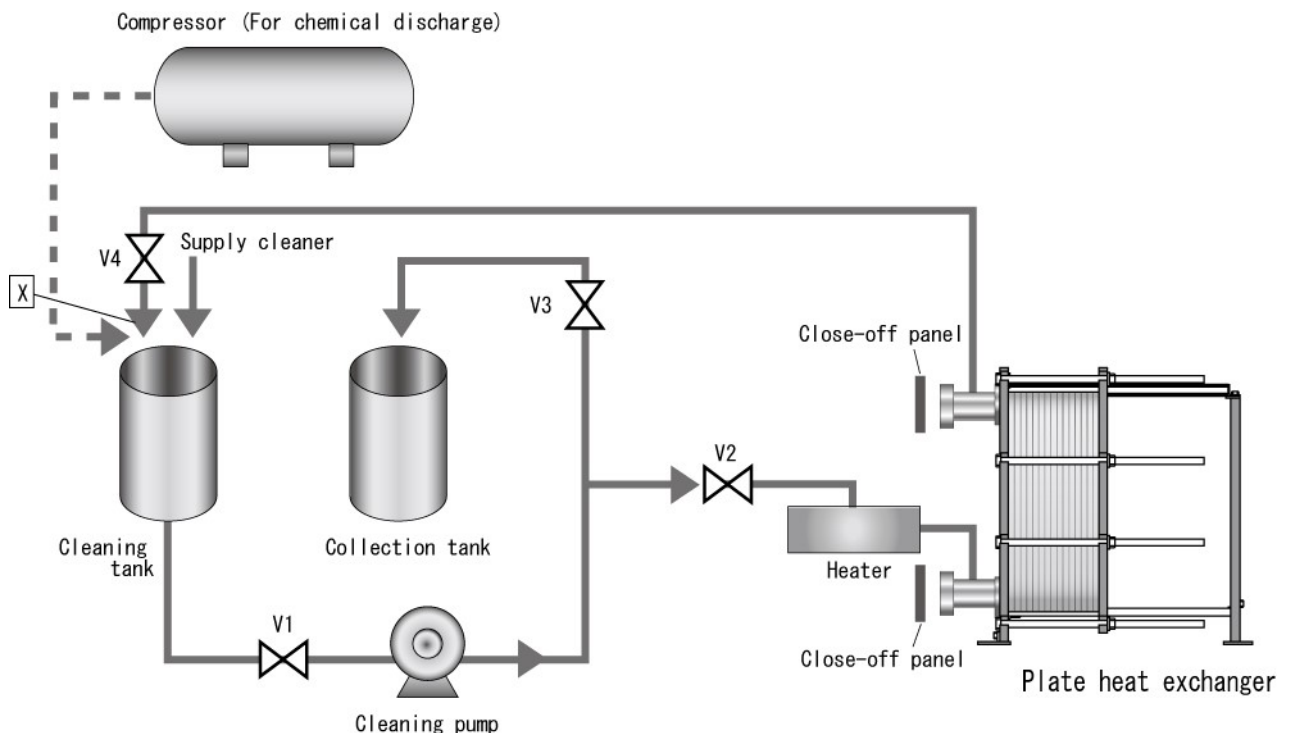

Fig.1-Flow Sheet
- ⑤ Valves: Approx. 40A (Ball valves are recommended.)
- ⑥ Recovery tank: 200 liters (Chemical resistant material such as polyethylene lined is recommended)
- ⑦ Cleaner input port connection
- ⑧ Compressor (if 0.5MPa clean air is not available)
- ① Power source for the cleaning pump
- ② Power source for the compressor, or 0.5 MPa clean air
- ③ Power source for the electric heater
- ④ Fresh water
3. Cleaning procedure (Refer to the flow sheet in Fig. 1.)
- ① The cleaner will be sent from us after confirmation of condition of PHE and type of fluid and scales.
- ② Isolate the PHE from the fluid by using existing valves or close-off panel.
- ③ Drain fluid of PHE.
- ④ Connect the piping for cleaning. (Refer to Fig. 1 flow sheet.) The cleaner can be supplied and drained from the thermometer connection, pressure gauge connection, or drains. Please prepare a cleaner supply connection.
- ⑤ Dilute cleaner in cleaning tank and make it to the specified concentration.